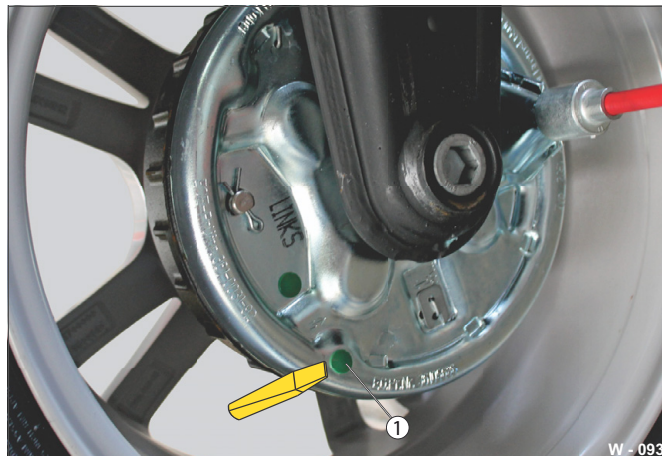

Fig. 65 Example: Drum brake (ALKO)
- Remove the stopper from the inspection port (Fig. 65 /1).